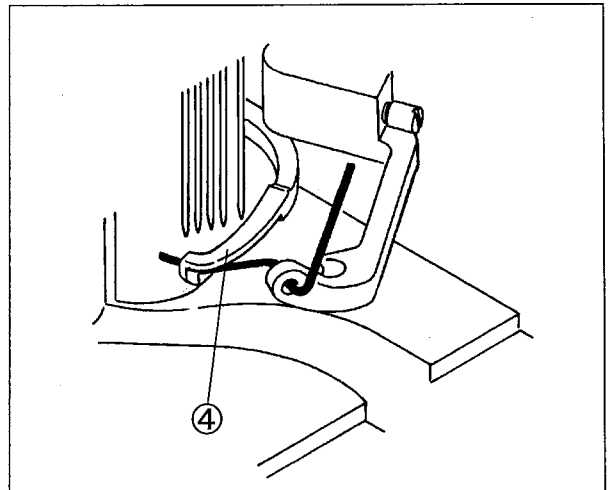

Fig. 63
The moment the top cover thread is hooked with the top cover thread hook ④ (Fig. 63), the thread is held at the point 0 - 1.0 mm apart from the top of the take-up ⑤.